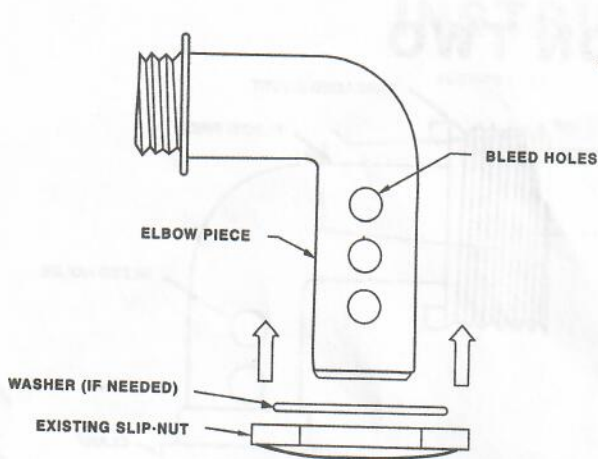

FIGURE 2
2. Remove the slip nut holding the "eyeball" in place from the inlet nearest the shallow end. Select one of the washers (8 or 9) that best fits into the threaded part of the slip nut. Insert the elbow piece (7) through the opening in the washer and then through the slip nut (Fig. 2). Some smaller inlets will not require a washer. This is your inlet adapter.